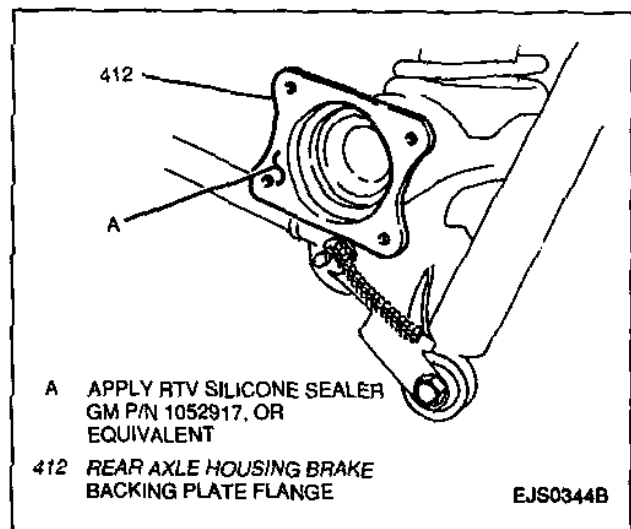

Figure 34—Rear Axle Housing Brake Backing Plate Flange
11. Apply RTV silicone sealer GM P/N 1052917, or equivalent, to the rear axle housing brake backing plate flanges (Figure 34).